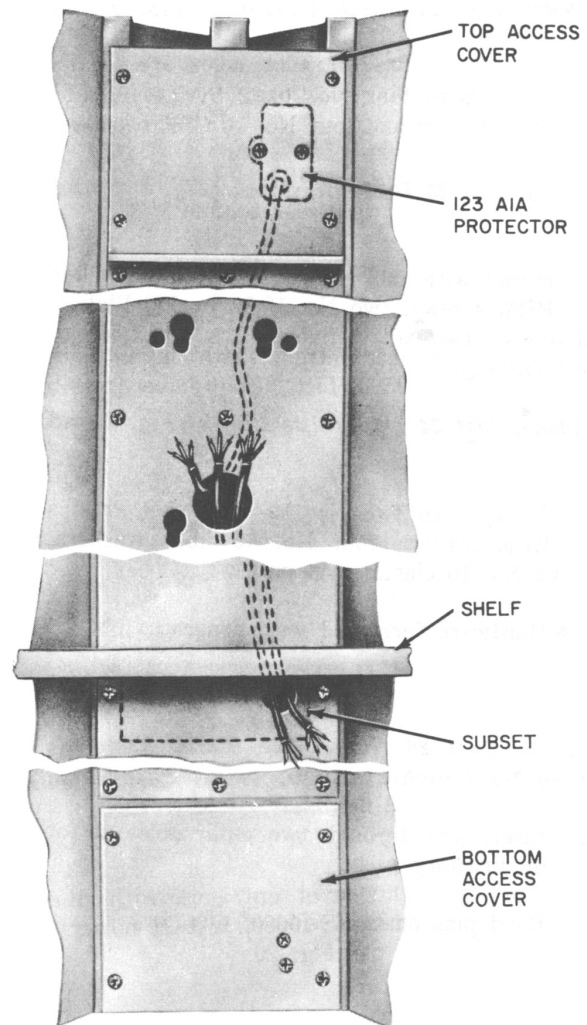

Fig. 18—Station Wiring
- 3.09 Station connection wires are furnished as shown in Fig. 18. Complete connections are covered in sections entitled Coin Collectors, Connections, and sections entitled Subscriber Sets, Connections.